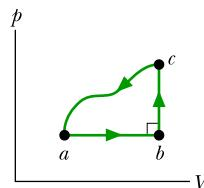

Figure 18.28
**69** Figure 18.28 displays a closed cycle for a gas. The change in internal energy along path  $ca$  is  $-160 \text{ J}$ . The energy transferred to the gas as heat is  $200 \text{ J}$  along path  $ab$ , and  $40 \text{ J}$  along path  $bc$ . How much work is done by the gas along (a) path  $abc$  and (b) path  $ab$ ?